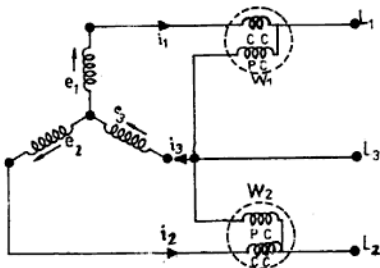

Fig. 12.14: Power measurement by two wattmeter method
**Two-Wattmeter Method (for Balanced or Unbalanced Load)** In a three-phase, three-wire system, two wattmeter  $W_1$  and  $W_2$  are connected across the two phases as shown in Fig. 12.14 for measuring the total power of